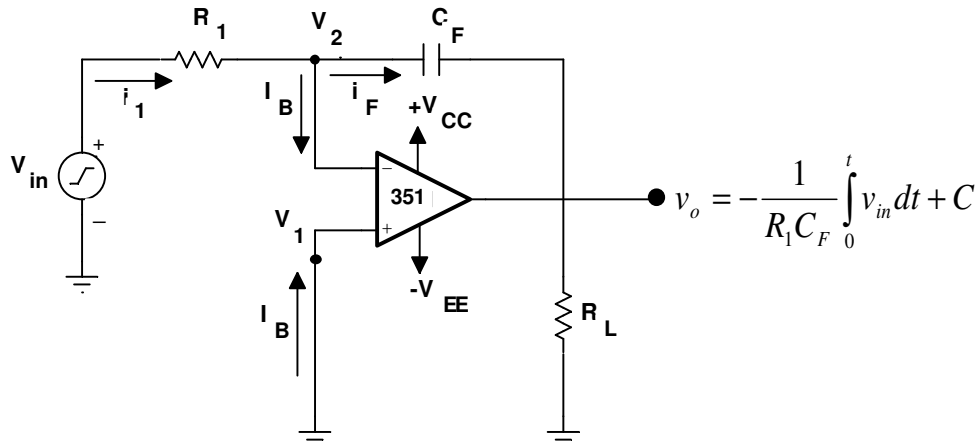

Fig.71(c)
- (iii) **Op-amp as an Integrator:** A circuit in which the output voltage waveform is the integral of the input voltage waveform is the integrator or the integration amplifier. Such a circuit is obtained by using a basic inverting amplifier configuration if the feedback resistor  $R_F$  is replaced by a capacitor  $C_F$  as shown in fig.71(c)